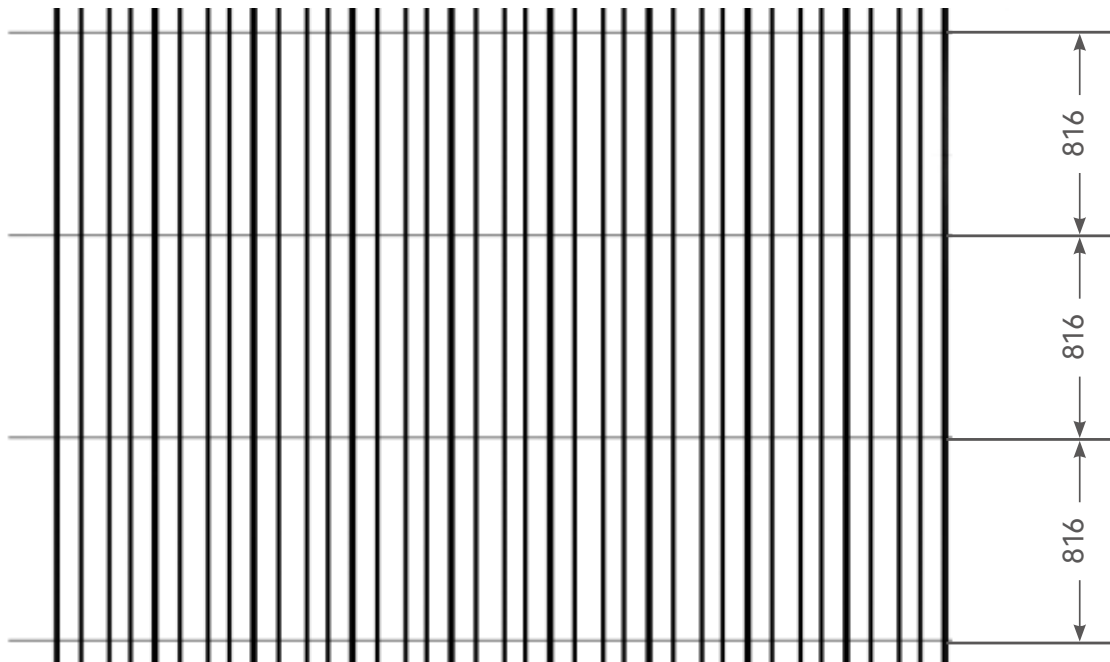

FIGURE 2
- Mark the position of Galaxy and the clamps with snapline, the centre line of each row of the clamp is $816 \pm 2\text{mm}$ apart, note that the snapline is perpendicular to the ridges of the colour steel tile (Figure 2)